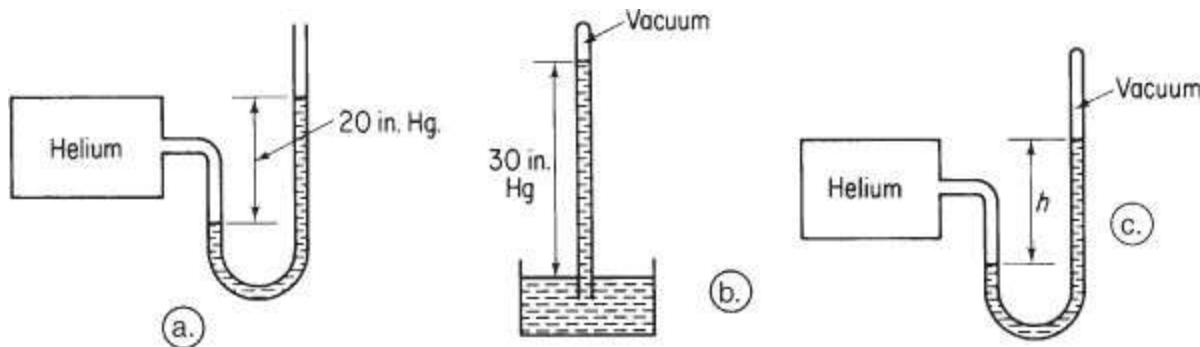

Figure SAT2.11P2
a. What kind of pressure is measured in Figure SAT2.11P2A?
b. In Figure SAT2.11P2B?